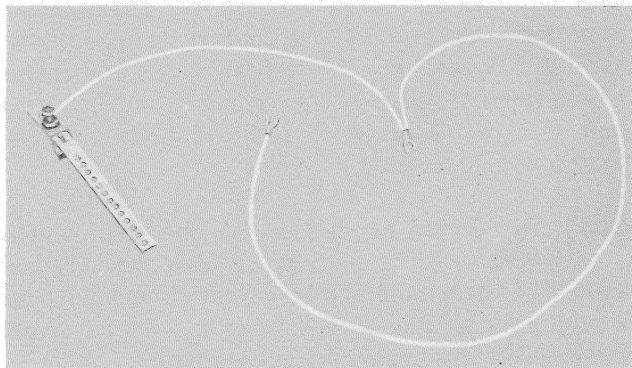

Fig. 19—P-12C414 Ground Wire Assembly
- A 14-gauge insulated ground wire (P-12C414 ground wire assembly) is provided. (Fig. 19)